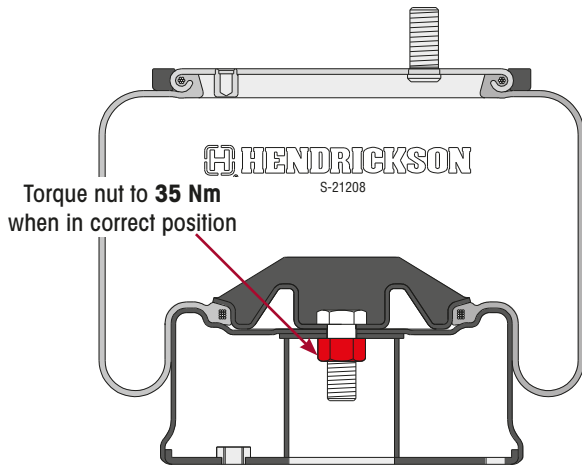

Figure 2 – Loosen Nut to Rotate Piston
4. Loosen the air spring piston retaining nut to allow rotation of the air spring about the piston. Refer **Figure 2**.